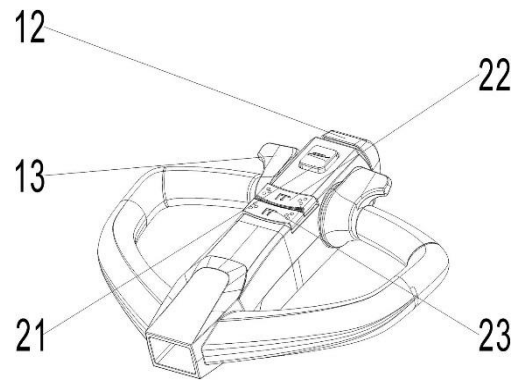

Fig.9: Tiller operating controls
the emergency stop button must be carefully pulled out. Press horn button 21 (Figure 9) to activate the horn.
Travel with the lowered forks fully underneath the pallet and press the lifting button (Fig. 9, 22) until you reached the desired lifting height.
Press the lowering button (Fig. 9, 23) carefully.
Control the travelling speed by moving accelerator knob (13, Fig 9) carefully until you reached desired speed.
- By moving the accelerator button (Fig.9, 13) back to the initial '0' position or by releasing the button, the regenerative braking is activated. The truck brakes until it stops.
- By moving the accelerator button (Fig.9, 13) from one driving direction directly to the opposite direction, the truck brakes regenerative until it starts traveling into the opposite direction.
- The safety (belly) button (Fig.9, 12) prevents the operator from being crushed. If this button is activated, the truck decelerates and/ or starts traveling into the backwards direction ('Bw.') for a short distance and stops. Please consider, that this button also operates, if the truck is not traveling and the tiller is in the operating zone.